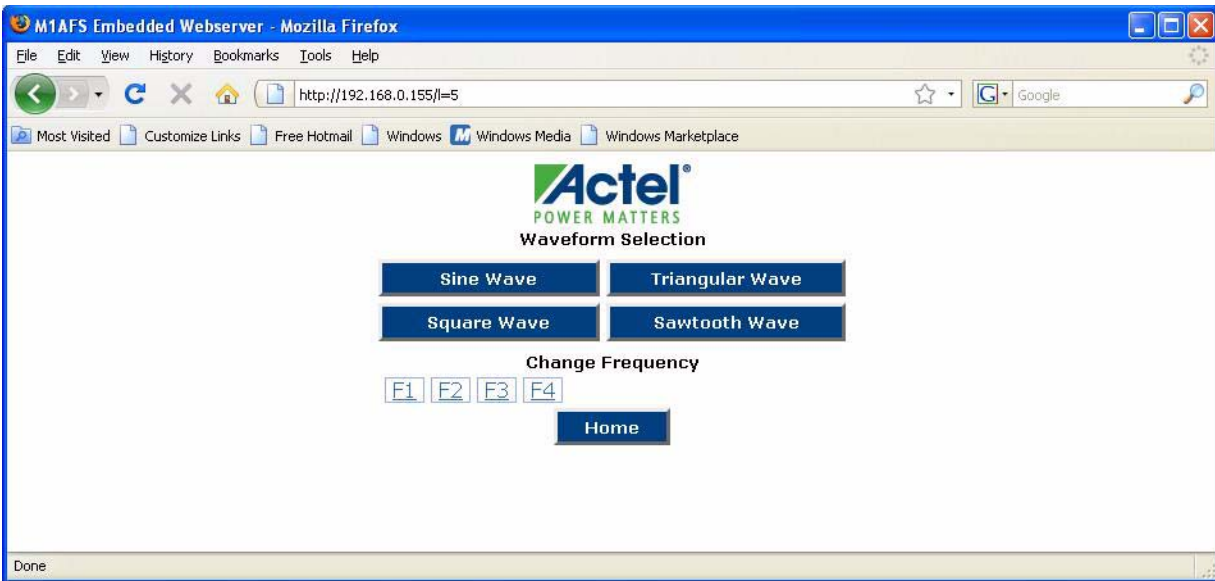

Figure 2-26 · Waveform Selection Web Page
2. The web page displays the following buttons (Figure 2-26 on page 27):